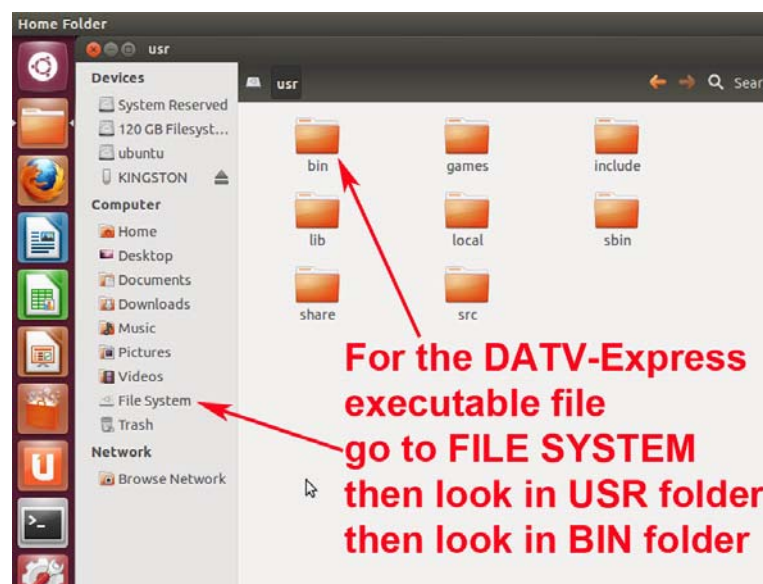

Figure 6 – Use Nautilus File Manager to look for the DATV-Express executable by going to **COMPUTER** (or **File System**), open **USR** folder and then looking in **BIN**
- Select **COMPUTER** (12.04 LTS displays **FILE SYSTEM**) on left side (shown in **FIGURES 6 and 7**)
- Select FILE SYSTEM on left side (shown in **Figures 6 and 7**)